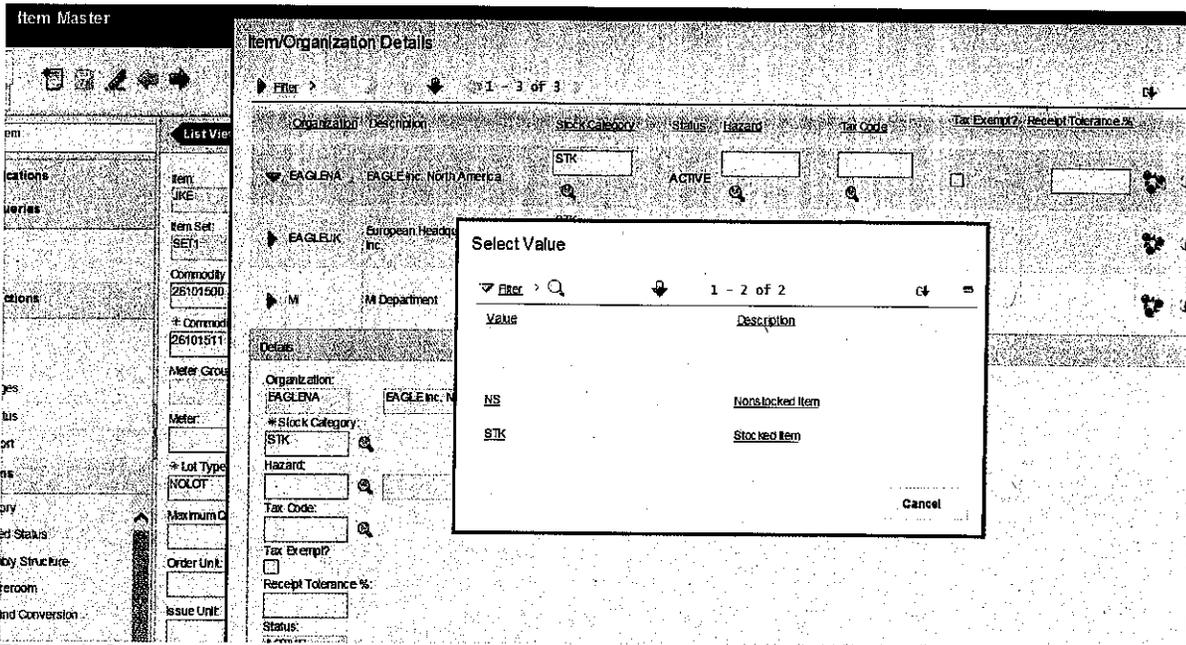

Figure 1: Screenshot of where the Stock Category is defined on the Item Master
The Line Type for non-stock items will be set as an *Item*, and the constraint to require a Work Order (WO) or Storeroom on the Purchase Requisition will be disabled. A conditional edit to require the WO or Storeroom will be added to Maximo based on whether the Item is defined as stock or non-stock in the Stock Category field on the Item Master. See Figure 1.